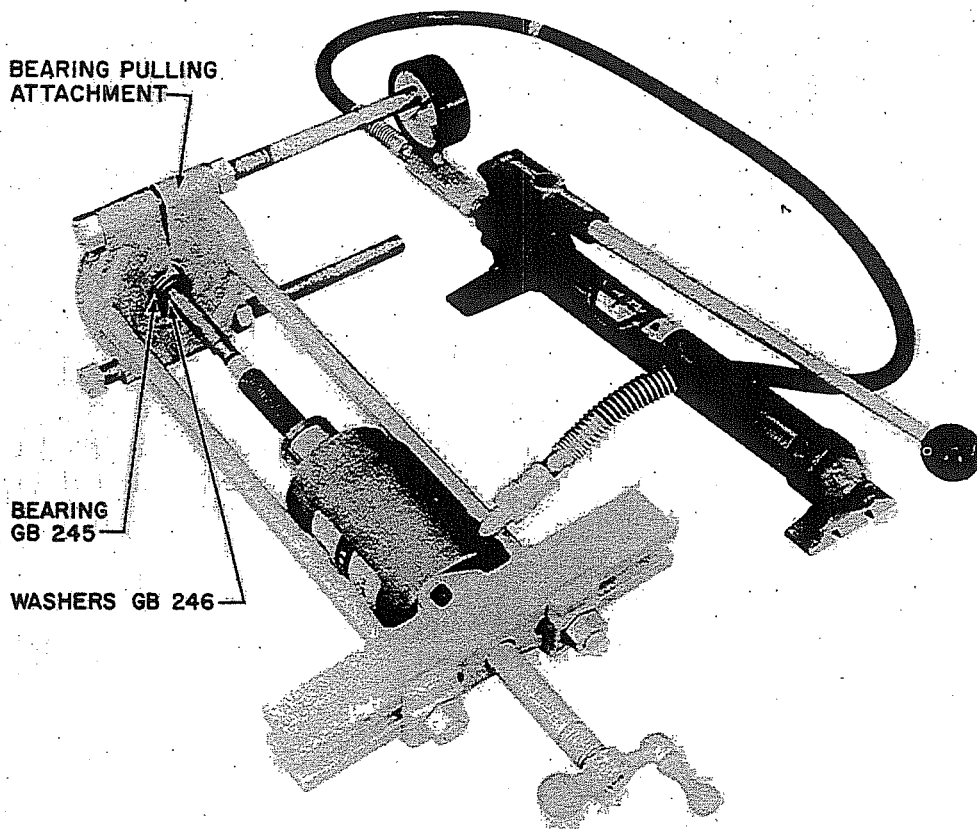

Figure 44. Detector, Installation of Bearing GB245 and Washers GB246
- T. Replace Washers GB246 and Bearing GB245 by securing the bearing pulling attachment behind Bearing GB245 (figure 44). Lubricate the shaft and bore prior to installing the bearing.